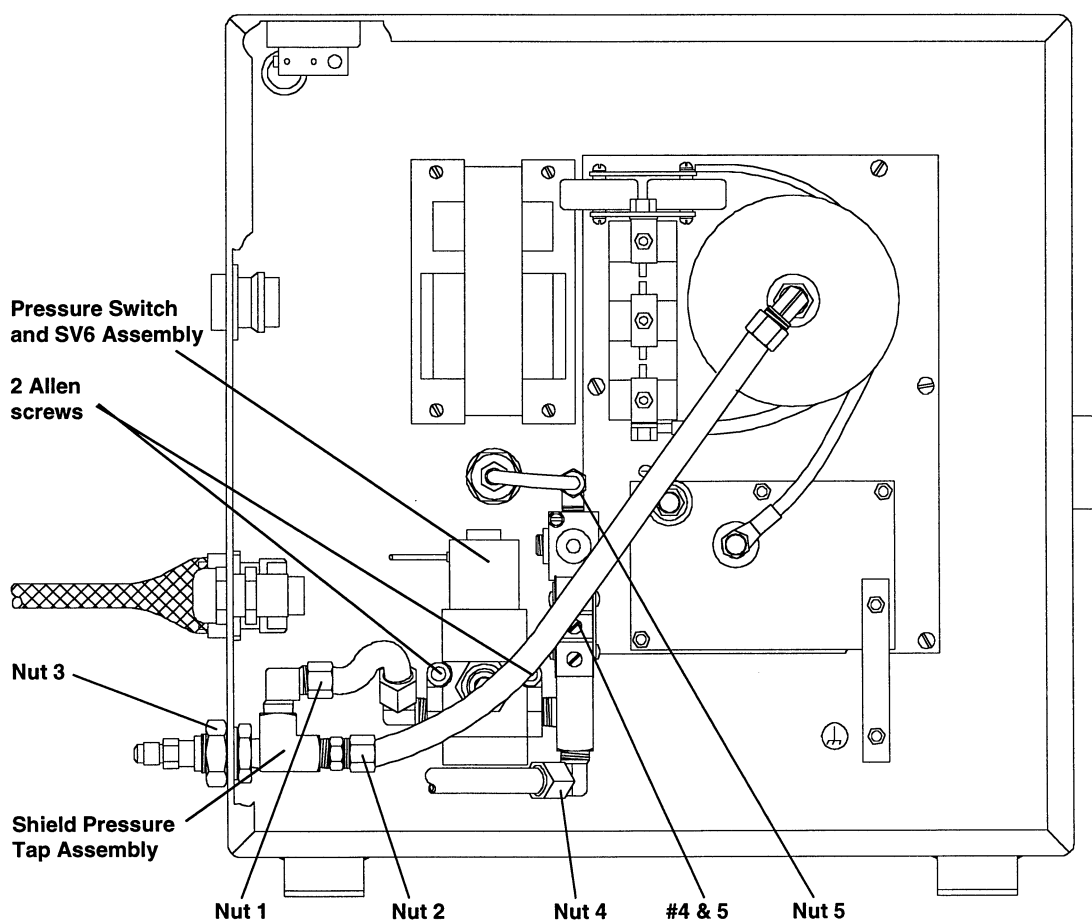

Figure 2 Removing Pressure Switch and SV6 Assembly
4. Disconnect the two plastic electrical connectors marked SV6 and SV7 from their mating receptacles (SV6 and SV7 connectors not shown in Fig. 2.).